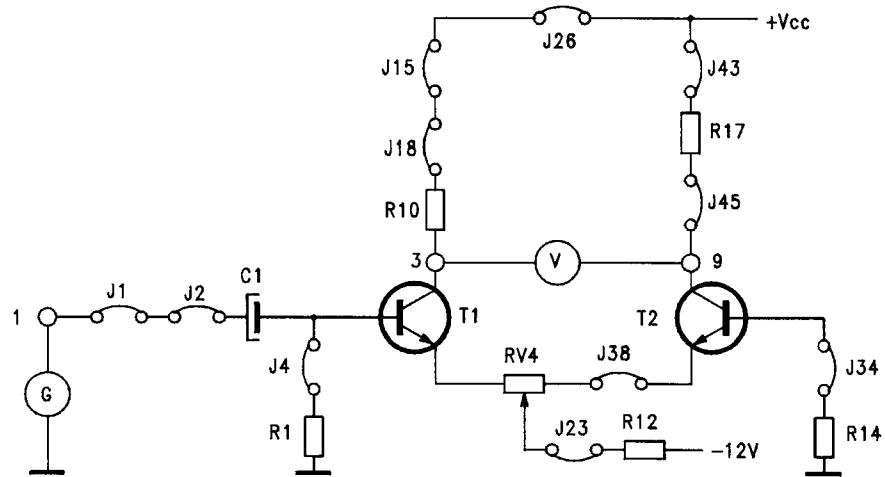

fig. B28.5
- Remove jumpers 27, J30, J32, insert J1, J2 to produce the circuit of figure B28.5.